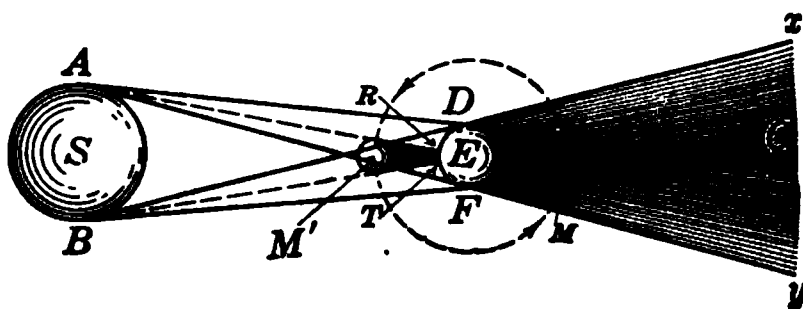

FIG. 279. — Penumbra and eclipses.
by an opaque ball B . If the light comes from a spherical object, the shadow will vary in intensity. See Fig. 279. The part from which all the rays of light are excluded,
included in the cone DCF , is called the *umbra*. The length of the umbra depends upon the relative sizes of the luminous and opaque objects and upon the distance between them. The lighter parts of the shadow, CFy and CDx , are called the *penumbra*. Suppose we let S represent the sun in Fig. 279, E the earth, and M the moon. It is easy to see that an eclipse of the moon is caused by
8. In Fig. 279, the radius AS of the sun is 433,000 miles; the radius ED of the earth is 4000 miles; the distance SE between the sun and the earth is 92,500,000 miles. Find EC , the length of the earth's shadow. (*Hint.* Note that ASC and DEC are similar triangles. SC equals 92,500,000 miles plus x miles.)